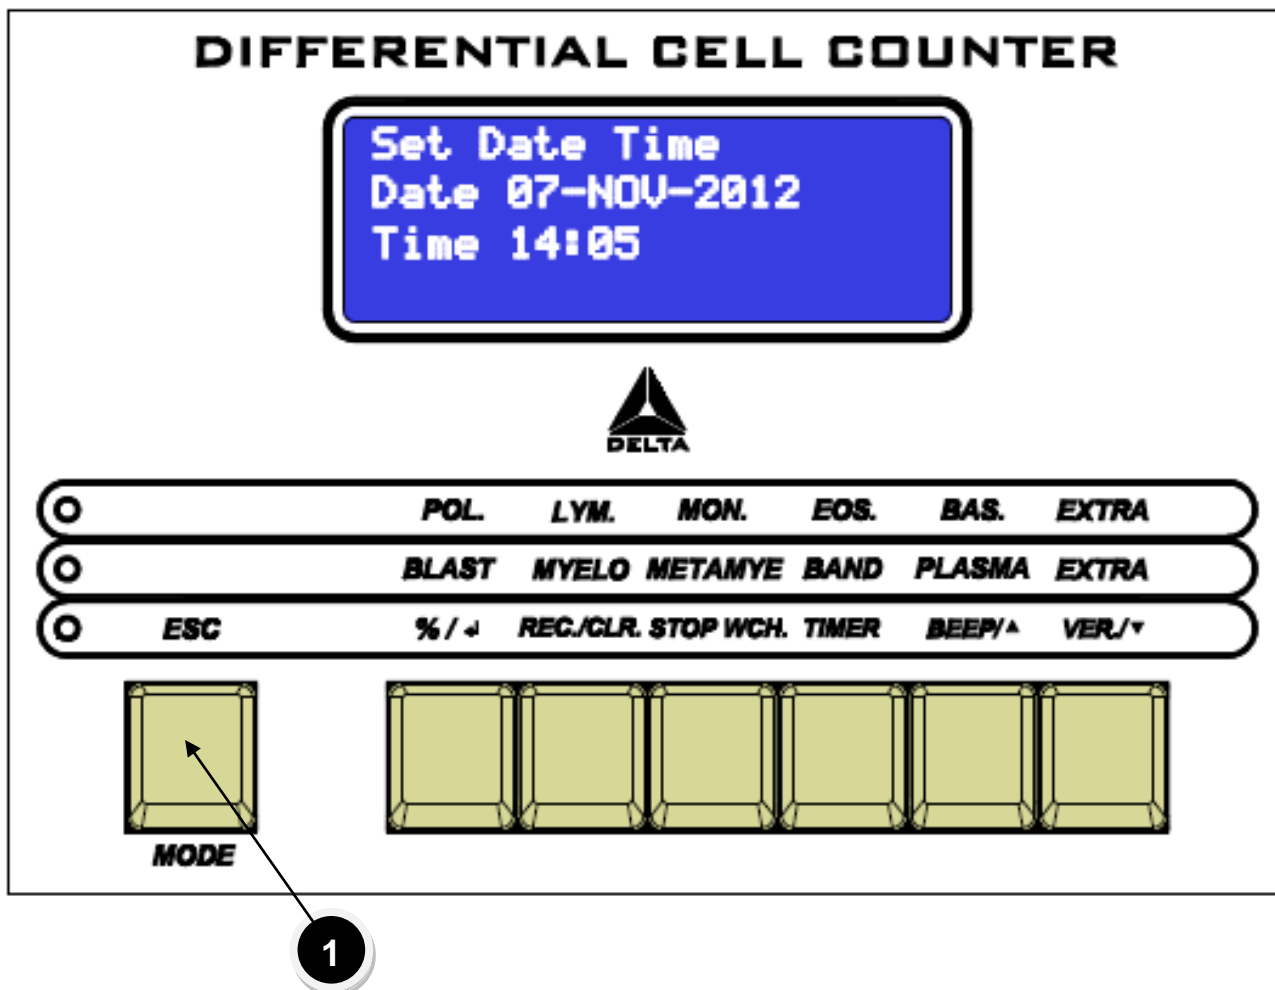

Fig. 8 Set Date Time
- 4.16 Keep pressing "Mode" key (Fig.8/①) with "On/Off" key to "Set Date & Time" (Fig.8).